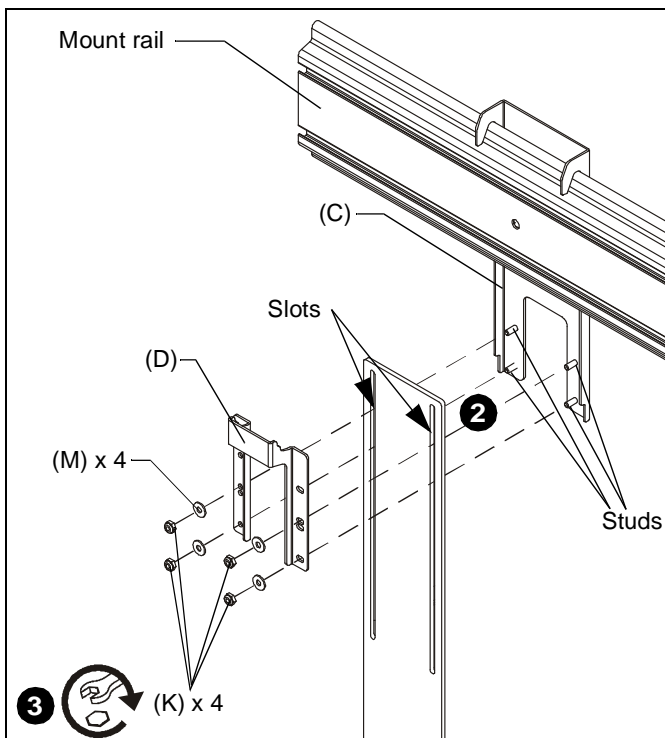

Figure 2
2. Hang shelf upright (B) onto the hanging bracket (C), placing studs on hanging bracket into slots on shelf upright. (See Figure 2)
3. Attach retaining bracket (D) to shelf upright, pressing retaining bracket against mount rail and tightening, using four #10 washers (M) and 10-24 lock nuts (K). (See Figure 2)